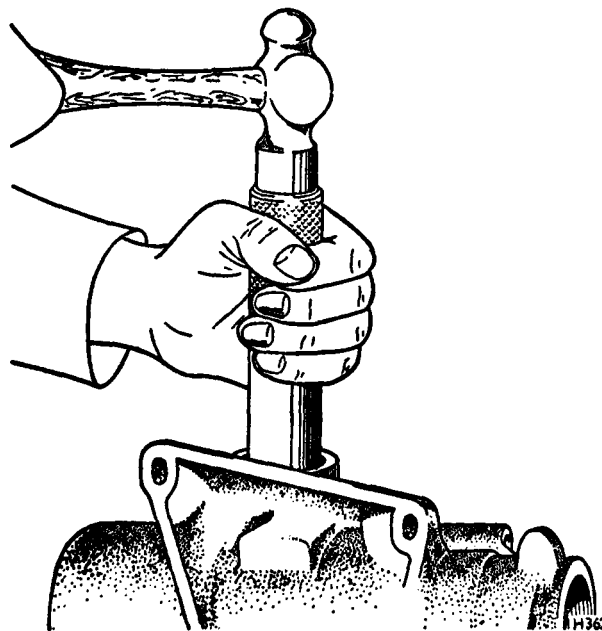

FIG. N26 REMOVING AND INSTALLING ROCKER SHAFT BEARING
4. Inspect the rocking shaft needle bearing and if the rollers are broken or pitted, remove the needle bearing from the steering box housing using the rocking shaft bearing extraction and insertion tool (RH 7781) (see Fig. N26).
2. If the rocking shaft needle bearing was previously removed fit new bearings on the end of the rocking shaft bearing extraction and insertion tool (RH 7781) with the letters on the bearing against the tool. Position the bearing and tool in the housing and drive the bearing into the housing (see Fig. N26). The upper edge of the bearing should be approximately 0.03 in. (0,762 mm.) below the shoulder in the bore of the housing.